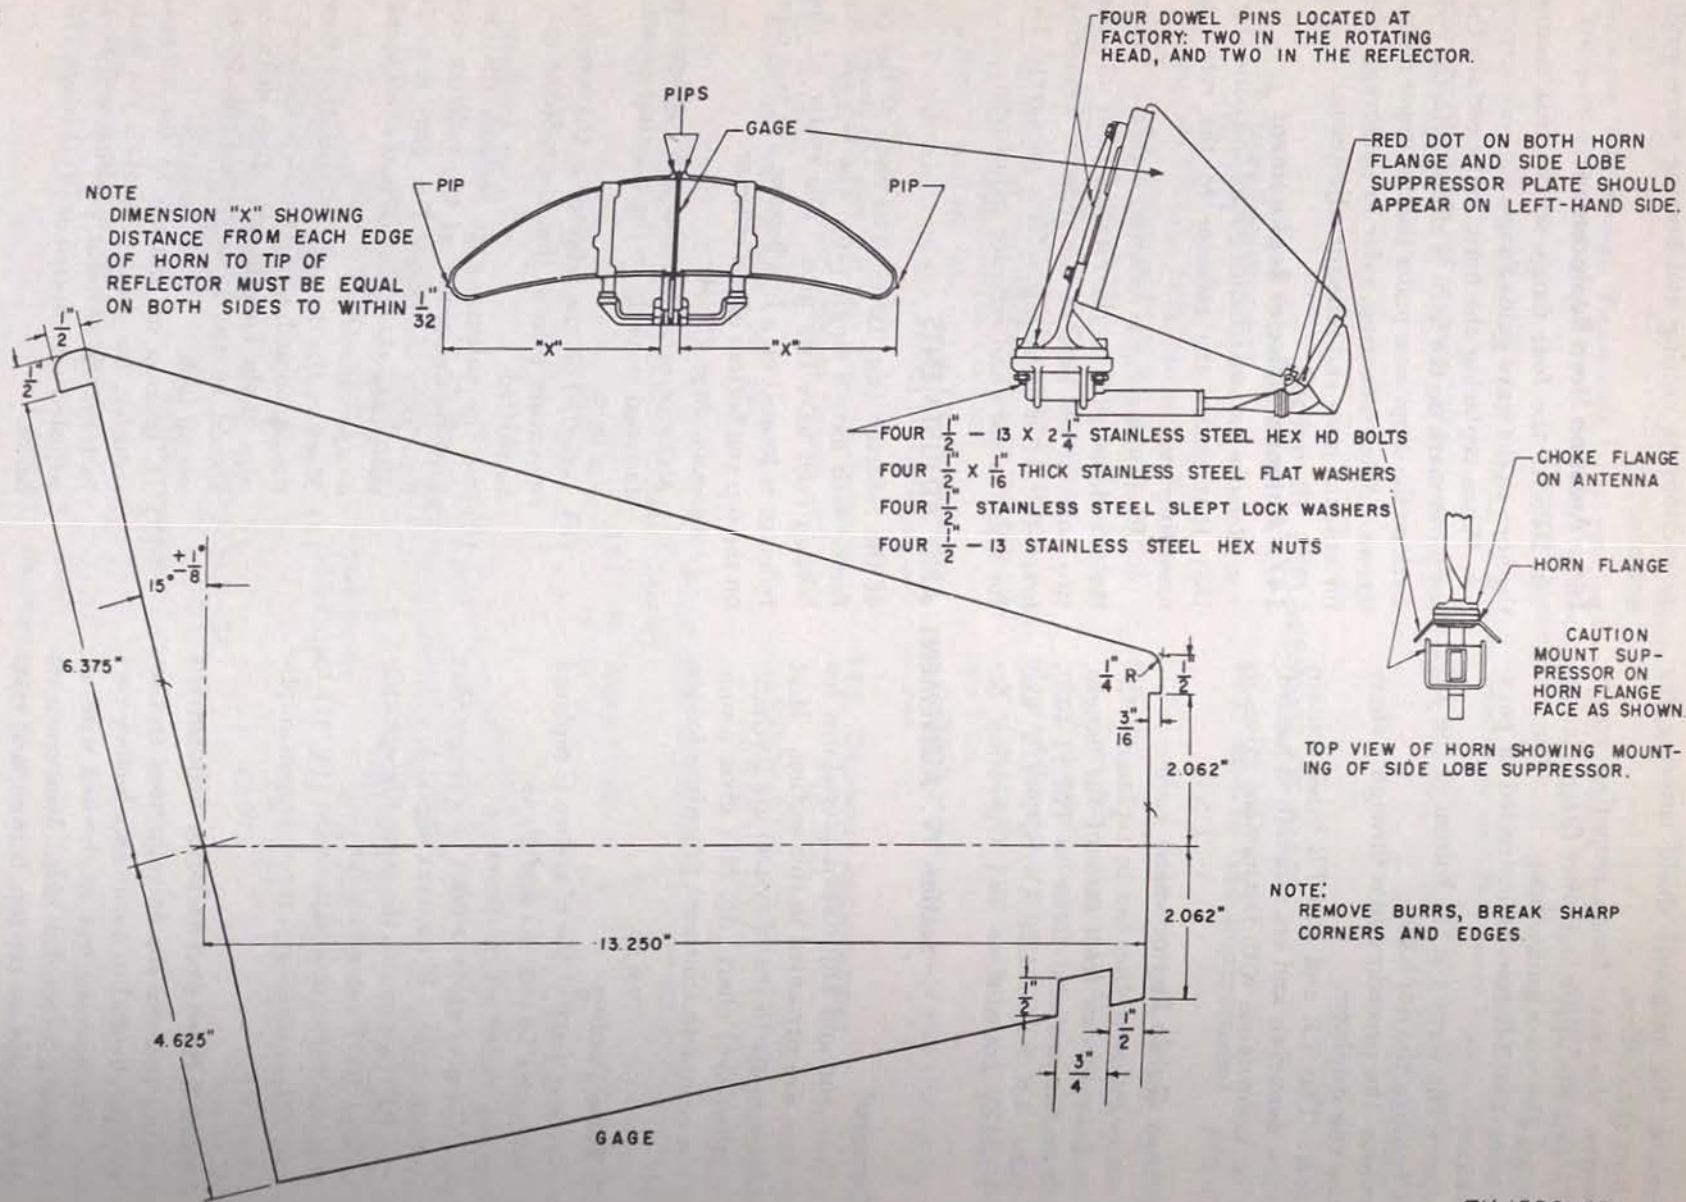

Figure 128. Antenna horn and reflector adjustments.
of the reflector (fig. 128). The ends of the reflector each have a single pip. The top and the bottom each have two pips. The center of the reflector is located on a line between the two pips on the top and bottom of the reflector.
- (1) Make certain that the antenna horn is fastened securely to the rotating mounting base.
- (2) Loosely bolt the reflector to the rotating mounting base so that the reflector may be shifted.
- (3) Set the antenna gage between the two pips in the center of the reflector and flush over the horn. *The gage must fit within one-thirty-second inch at all points on the reflector.*
- (4) Measure the distance (X, fig. 128) from the pip on each end of the reflector to each edge of the horn flange. Both distances should be the same within one-thirty-second inch.
- (5) If, because of damage to the antenna reflector, the measurement is not satisfactory, the reflector position should be adjusted as indicated in (6) through (1) below.